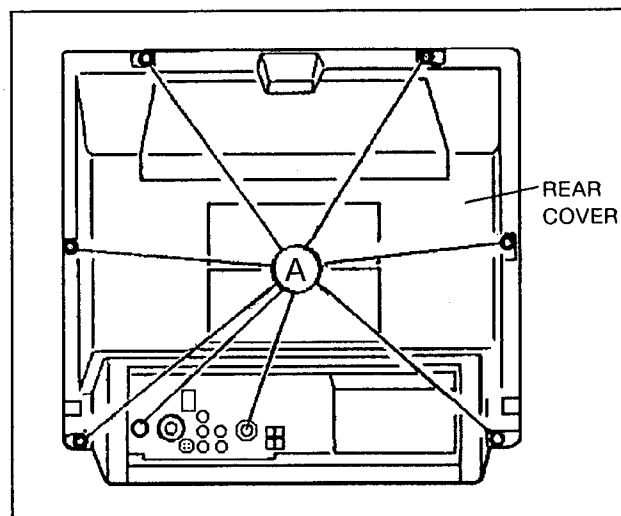

Fig. 1
1. Unplug the power supply cord and remove the eight screws marked **A** as shown in Fig. 1